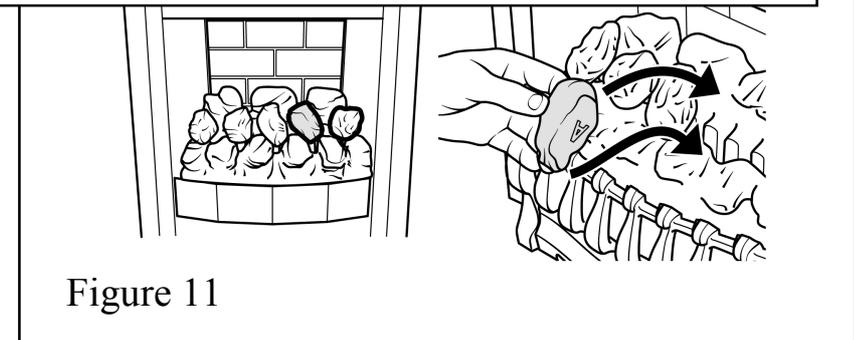

Figure 11
9. Place the remaining type "A" coal between the front and rear base coals. The letter "A" should be upside down with its rear face between the right and centre coals of the rear base coal. Angle the coal so that the gap between it and the type "B" coal to its right is appreciably larger than the gap between it and the type "A" coal to its left but do not have it touching the type "A" coal. This will give the best flame effect. See figure 11.